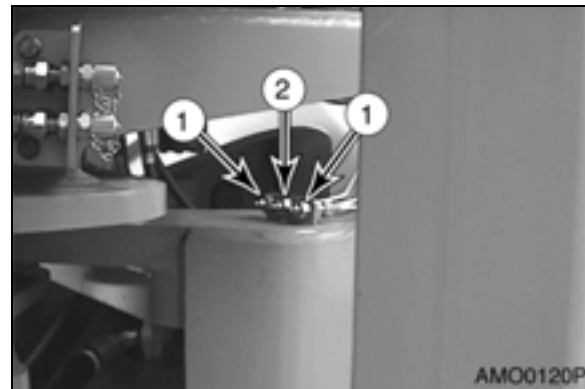
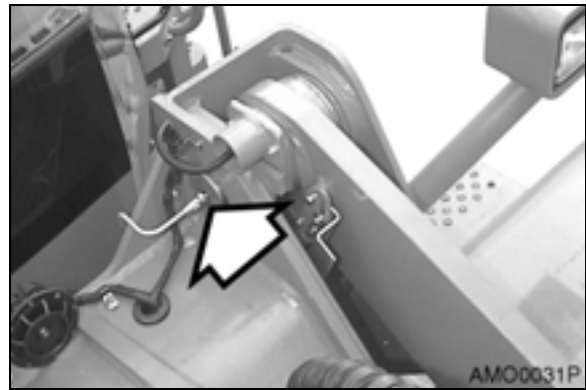
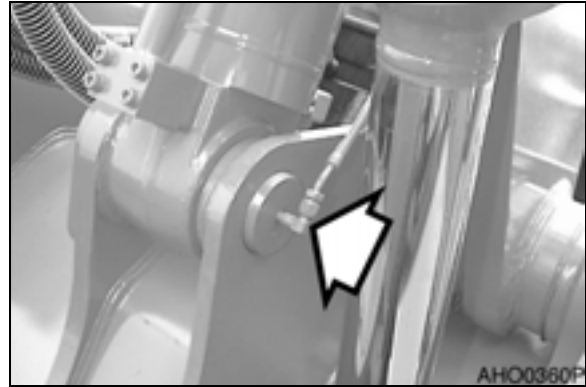

Figure 35
Figure 36
Figure 37
1. REMOTE FITTINGS FOR LOADER ARM FOOT ENDS (50 HOUR) (Figure 35 and Figure 36).
2. REMOTE FITTINGS FOR BUCKET CYLINDER HEAD (50 HOUR) (Figure 35 and Figure 37).